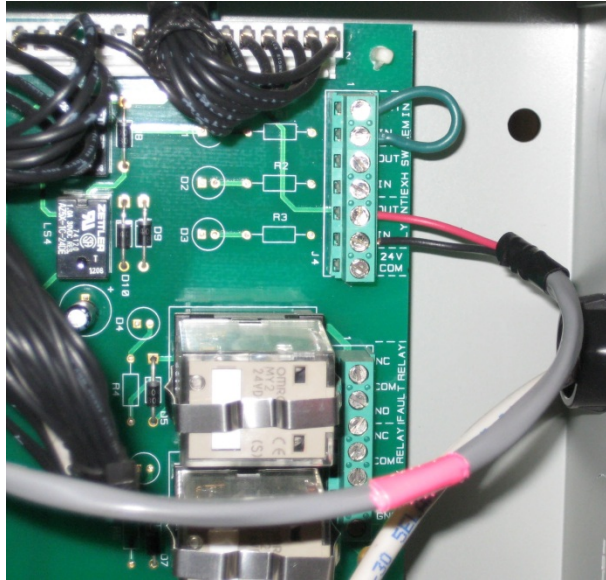

Figure 2-14: Sequencing Isolation Valve Installed
2. The Heating Boiler's shell harness has one unused cable. One end of this cable is connected to the DELAYED INTERLOCK IN terminals in the I/O board (see Figure 2-14) while the other end contains a Molex connector with a jumper wire inserted in it (this jumper wire allows units that do not have a sequencing isolation valve to operate normally). Find the free end of this cable inside the unit's enclosure.